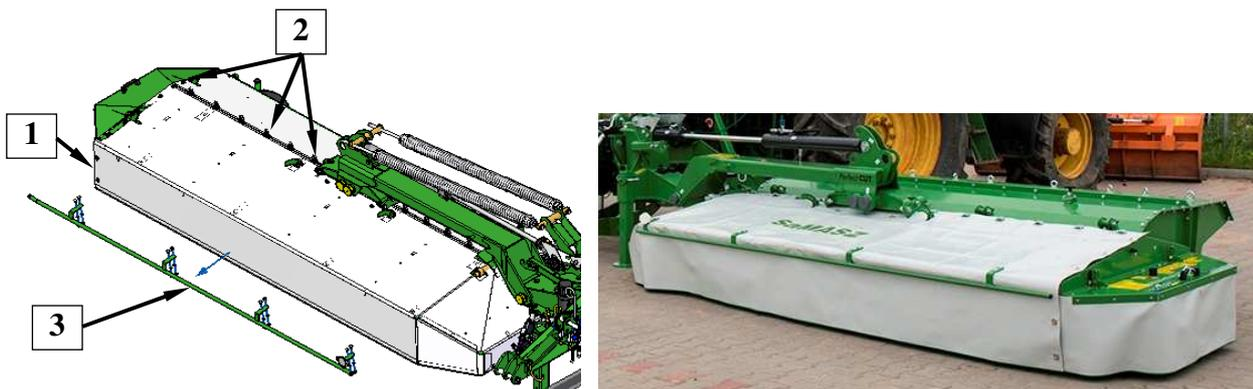

Fig. 8. Mounting safety curtain guard on the mower
SaMASZ mowers feature standard safety curtains (1) for self-mounting. In order to mount the guard properly, put it on a mower and secure with catches (2) and front guard (3) **Fig. 8**. Examine condition of guards and its mounting on a regular basis. Front guard (3) should be fixed so that it holds the safety curtain (1).